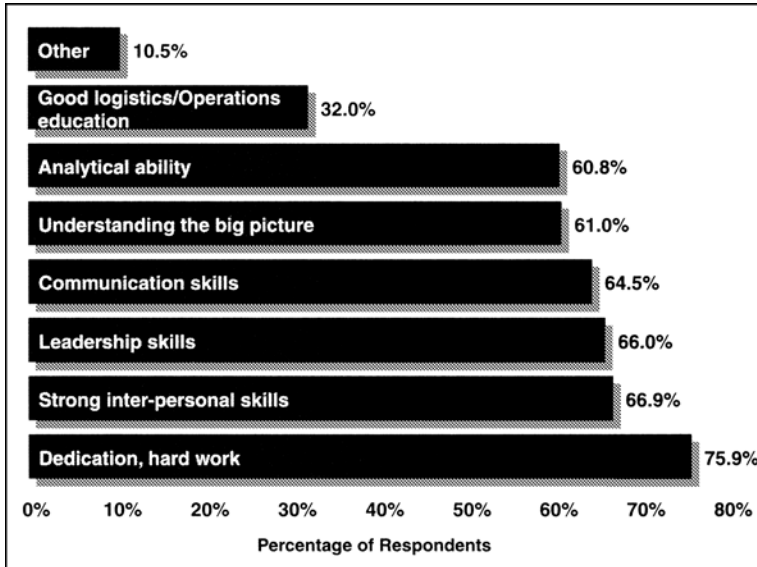

Figure I-5.4 What Attributes Contribute to Professional Success of Female Logistics Executives
- Contributing most to respondents' success was both the analytical skills that are job-related as well as the "softer" management and personal skills. Dedication, hard work, and determination ranked first (see Figure I-5.4). Having a good education in logistics or operations was also a plus.